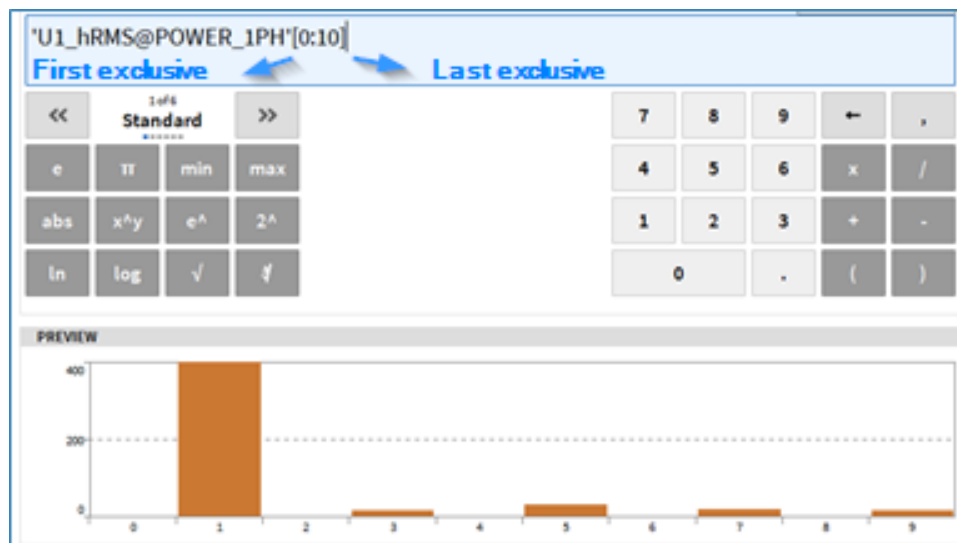

Fig. 7.75: Extraction of several adjacent elements
- When extracting several adjacent elements, the first specified index is always inclusive and the last one is always exclusive (see Fig. 7.75)
- Extraction of several adjacent elements (see Fig. 7.75). The output will be an array channel with the number of extracted element as new dimension.